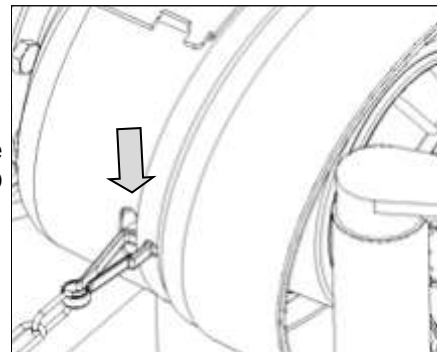

Fig. 26
8. At the mower end the safety chain attaches to one of the holes and slots in either side of the large gearbox PTO shield (Fig 26).